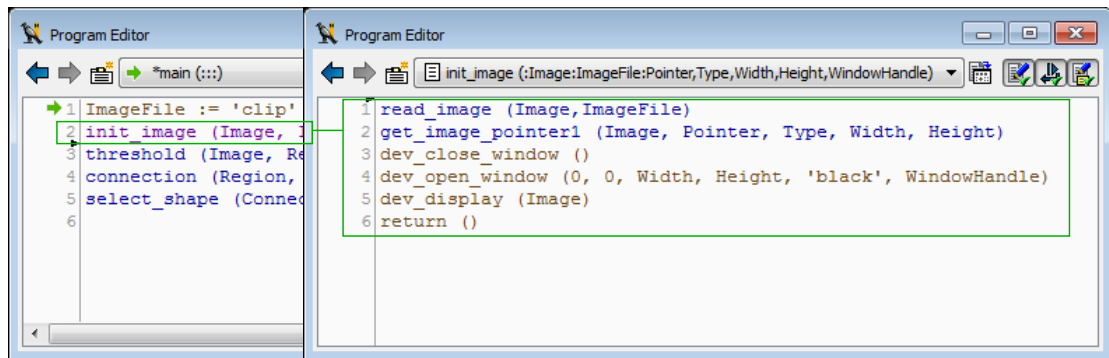

Figure 5.38: Resulting new procedure.
**Replace selected program lines** If this option is enabled, the selected program lines are replaced by an appropriate call to the newly created procedure see figure 5.38 on page 138 for an illustration. Otherwise, the original program lines are kept and no procedure call is added. In any case, the selected program lines are copied to the body of the new procedure.